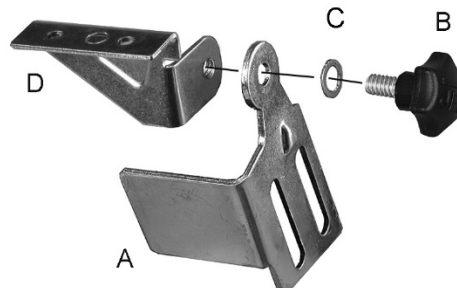

Figure 6-1: bracket to spark guard
Refer to Figure 6-1.
Note: Spark guard (A) and eye shield bracket (D) are marked **L** for left side assembly. Assemble these using Figure 6-1 as a guide.